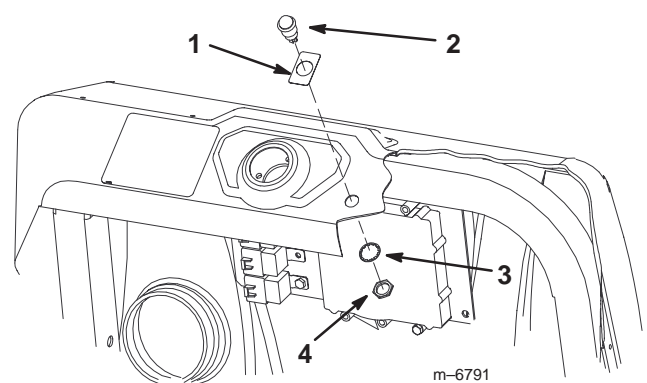
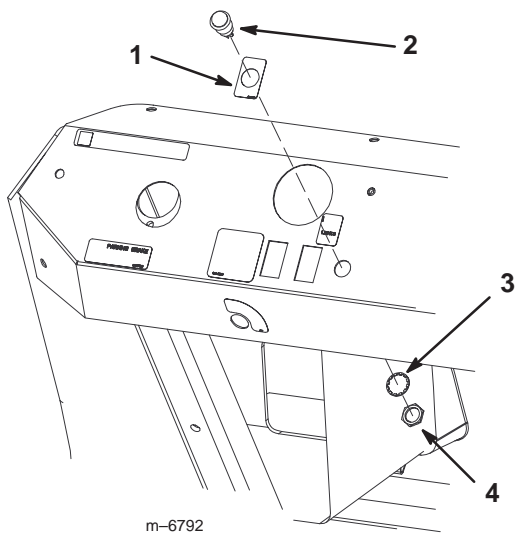

Figure 7
Figure 8
- Install decal 94-8582 over the light hole in the dash (Fig. 7 for the Multi Pro 1200 and 1250 and Fig. 8 for the Multi Pro 5600).
3. Install the light in the dash and secure it using the washer and nut (Fig. 7 or 8).